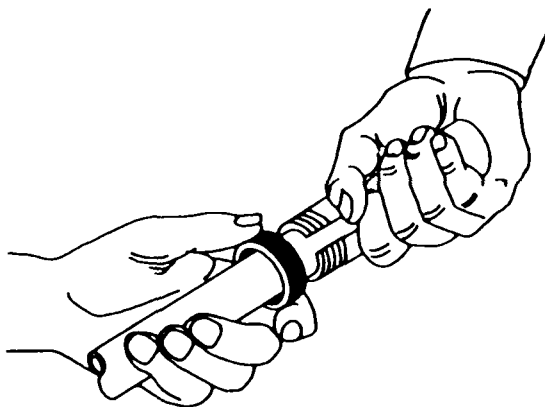

Figure 2-24d
8. Hold the suppressor in position with one hand and tighten the lock ring (see Figure 2-24D).